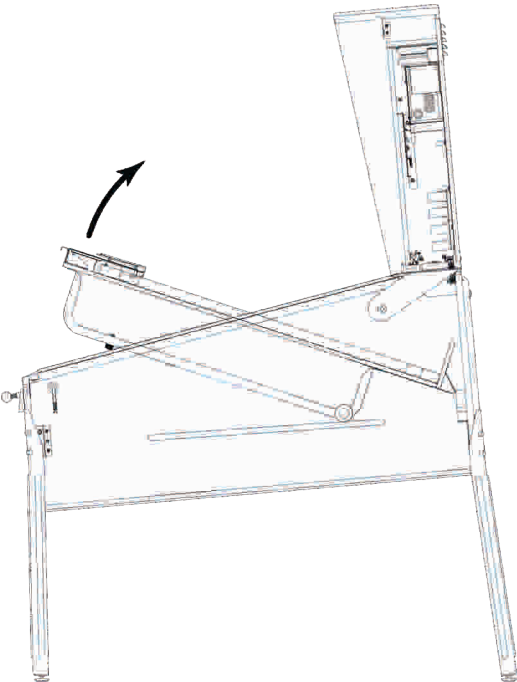
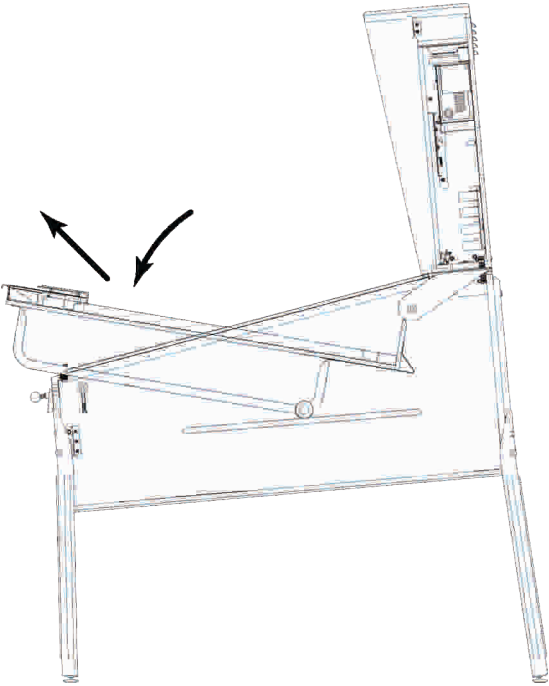

Fig. 10a Lifting the playfield upward
Fig. 10b Moving the playfield to position 2
20. Lifting up the playfield to service your game (Fig. 10a, Fig. 10b & Fig. 10c).